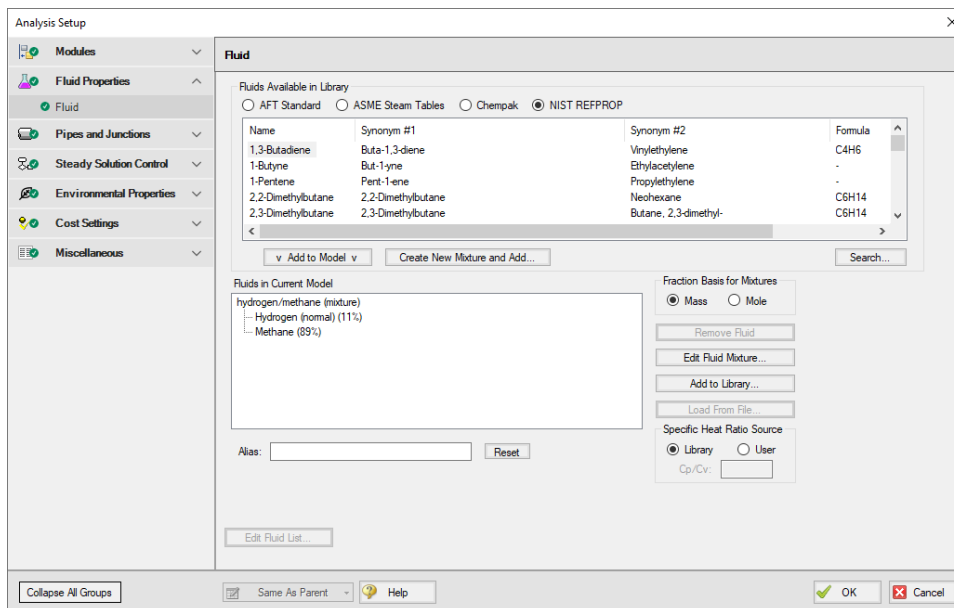

Figure 2: The Fluid panel in Analysis Setup
10. Click OK to add the mixture to the Fluids in Current Model on the Fluid panel, as shown in Figure 2